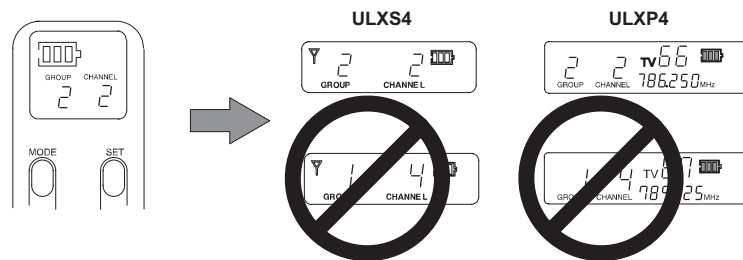

FIGURE 30
- Make sure the transmitter Group and Channel settings match the receiver Group and Channel settings, as shown in Figure 30. If using the Bodypack transmitter, clip it to your belt, waistband, or guitar strap.